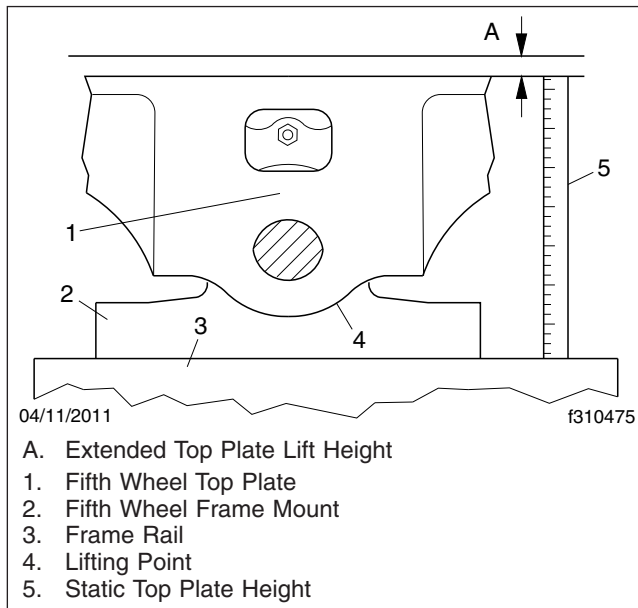

Fig. 7, Measuring Fifth Wheel Top Plate Lift
7. Level the fifth wheel plate to a horizontal position. Measure the height from a stationary mounting point (see **Fig. 7**, Ref. 3), such as the frame rail to the top of the fifth wheel plate (Ref. 1). Pry up on the fifth wheel plate (Ref. 4) below the pin boss, and measure the vertical movement (Ref. 5). The bracket connection provides a 9/32-inch (7-mm) vertical clearance to provide cushioning and to avoid downward pin-loading while retaining minimum plate lift. If the plate lift (Ref. A) exceeds 5/16 inch (8 mm) as a result of wear or rubber deterioration, install new, standard or oversized bracket-shoe rubber pads; see **Group 31** of the *Century Class Trucks Workshop Manual* for replacement instructions.